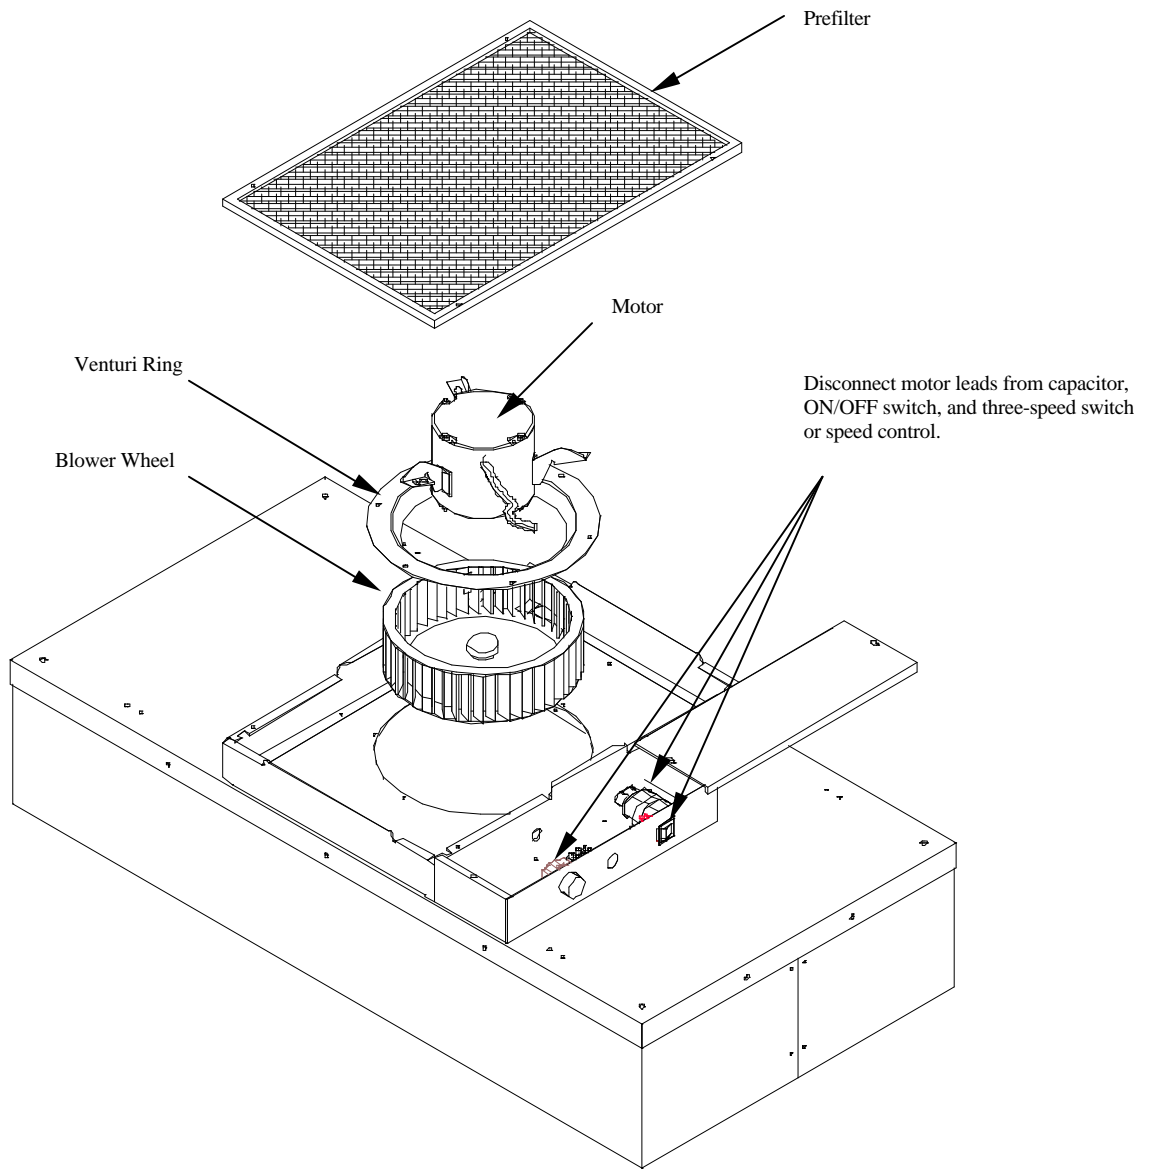

Figure 5
- Step 4.** Loosen the electrical box cover screws (2), and slide/lift off cover.
- Step 8.** Remove the six screws to free the venturi ring and remove the motor/blower assembly from the lid assembly. If using a power drivers, set the unit to a low torque setting to avoid stripping the sheet metal screws.(see Figure 5)